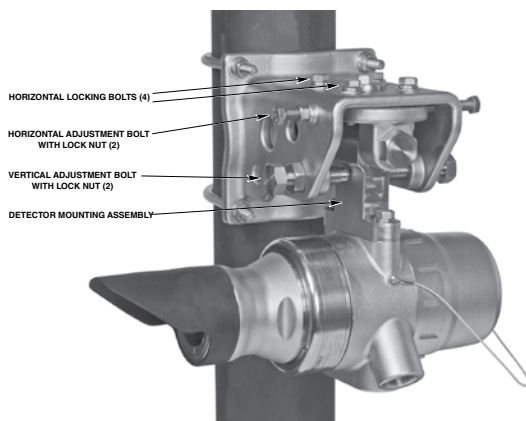

Figure 25—LS2000 Mounting and Alignment Bracket (Receiver Module Shown)
3. Loosen the Horizontal and Vertical Adjustment Bolts on the mounting and alignment bracket using the 9/16" wrench for the Horizontal Adjustment Bolts and the 15/16" wrench for the Vertical Adjustment Bolts. See Figure 25.